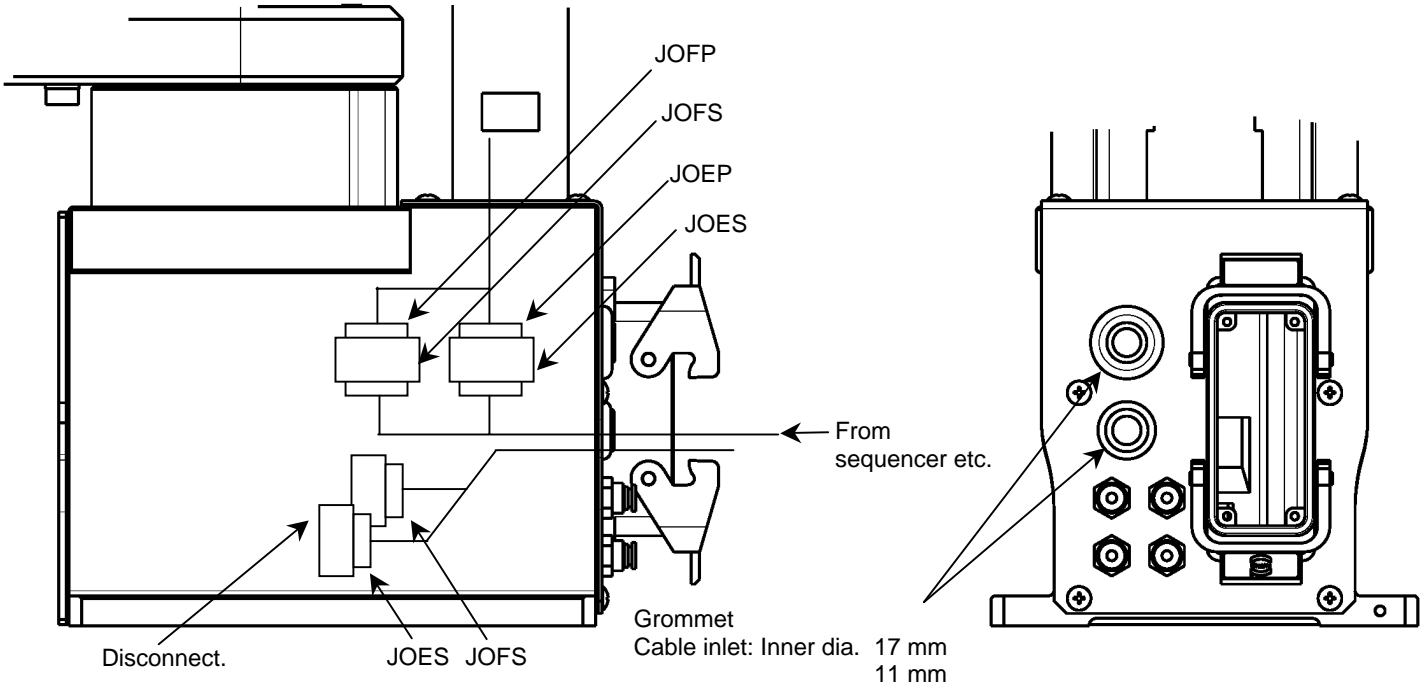

Fig. 5.2 Wiring to sequencer, etc.
Eight (8) input signals are provided for sensors, etc. and eight (8) control signals for solenoid valves, etc. A supply power signal of P24V is also provided. They are connected to the controller. The wiring arrangement for these cables is shown in Fig. 5.2. The wires are connected to the connectors on the upper side of the arm 2. The user should provide the following connectors to connect the cables.
When controlling the robot from the sequencer, etc. installed separately, remove the motor cover from the base section, remove connectors **JOES** and **JOFS** on the rear side, then connect the cables running from the sequencer, etc. through the cable inlets provided on the motor cover. (See Fig. 5.2.) For ahead of the **JOES** and **JOFS** connectors, the user should prepare the following plug connectors and connect the cables. The current is 1 A or less per cable.